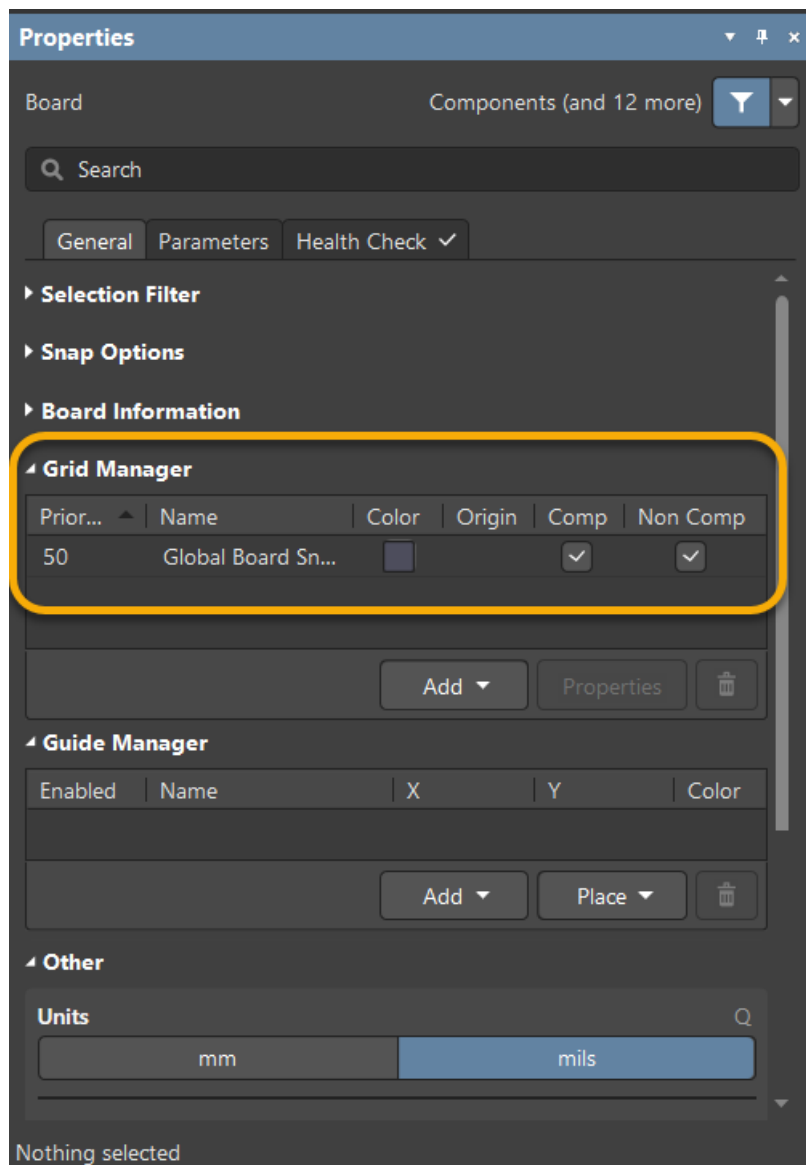

Figure 2. Properties panel with the Grid Manager
14. Open the *Properties* panel by clicking **View » Panels » Properties**. The grid configuration can be found in the *Grid Manager* section of the panel, as shown in Figure 2 below. You can minimize the other sections of the panel or scroll down to see the relevant information.